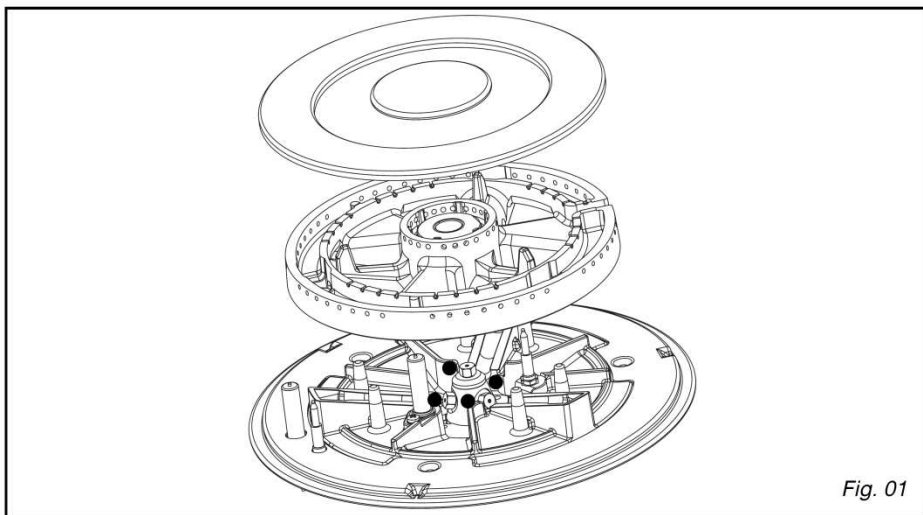

Fig. 01
— **Connection with a wavy metal hose** (stainless steel) **with screw-on mechanical connectors** (compliant with the NF D 36-125 standard) whose service life is unlimited (Fig. 01).
- Using a No.10 spanner, unscrew the central injector located at the base of the burner unit (see **A**) and using a No. 7 spanner, unscrew the 3 injectors located around the central injector (see **B**) around Fig. 01).